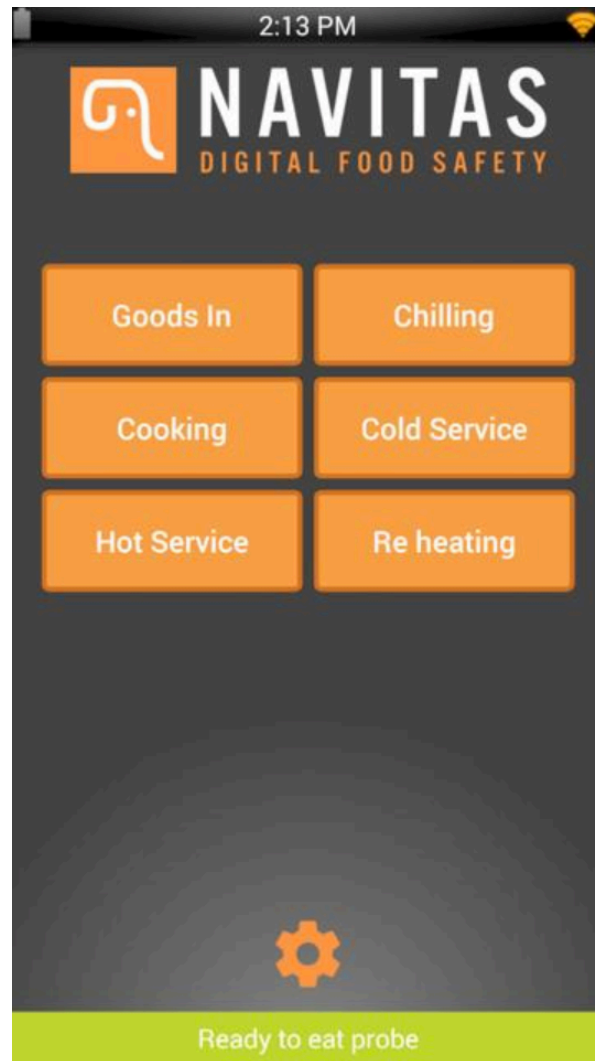

Fig. 12 – Food Service selection screen.
1. Select the food service you are taking a temperature for (see Fig. 12).